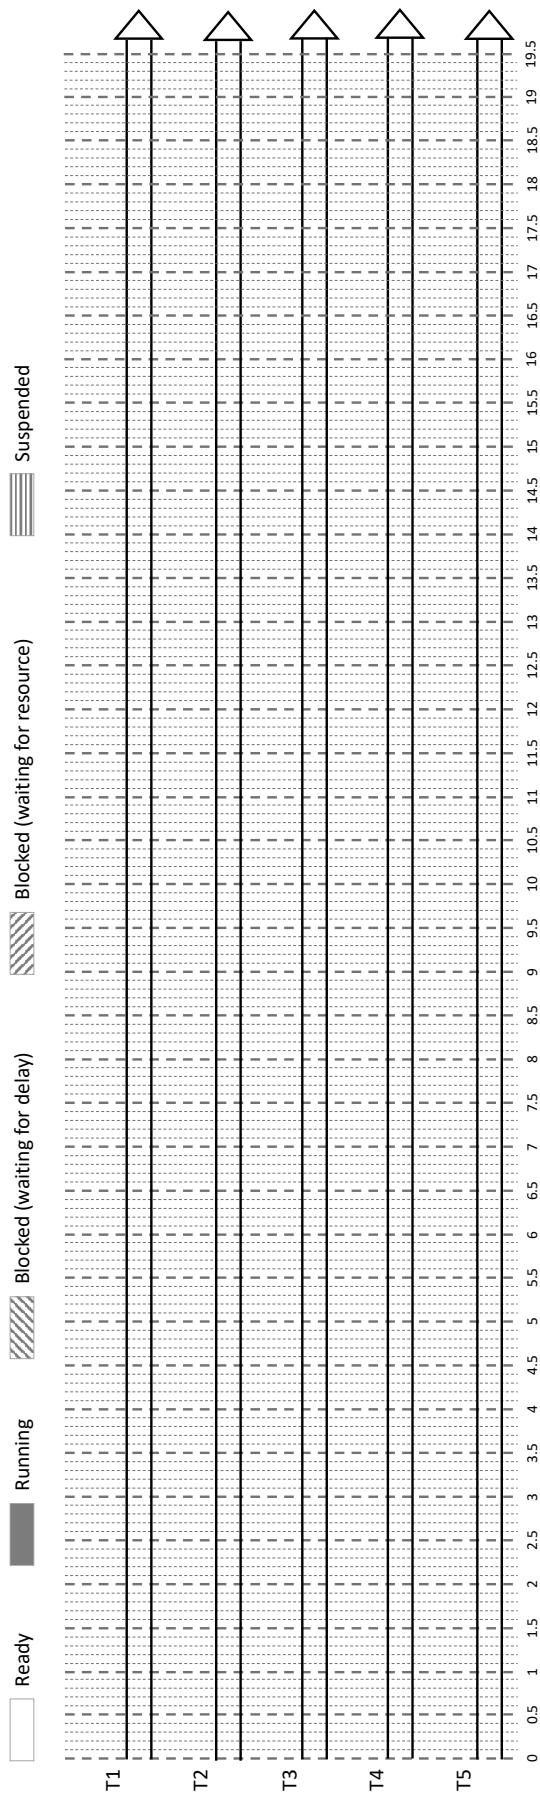

FIGURE 1.6 – SRTF (Shortest Remaining Time First) scheduling trace.
5. SRTF (Shortest Remaining Time First), the arrival times (AT) of the tasks being the following : $AT(T_1) = 0$, $AT(T_2) = 1$, $AT(T_3) = 2$, $AT(T_4) = 3$, $AT(T_5) = 4$ (cf figure 1.6).